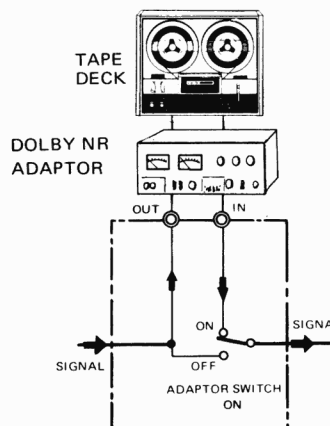

Fig. 8
1. As shown in Fig. 8, connect the ADAPTOR OUT terminals to the tape deck recording input terminals (LINE INPUT).